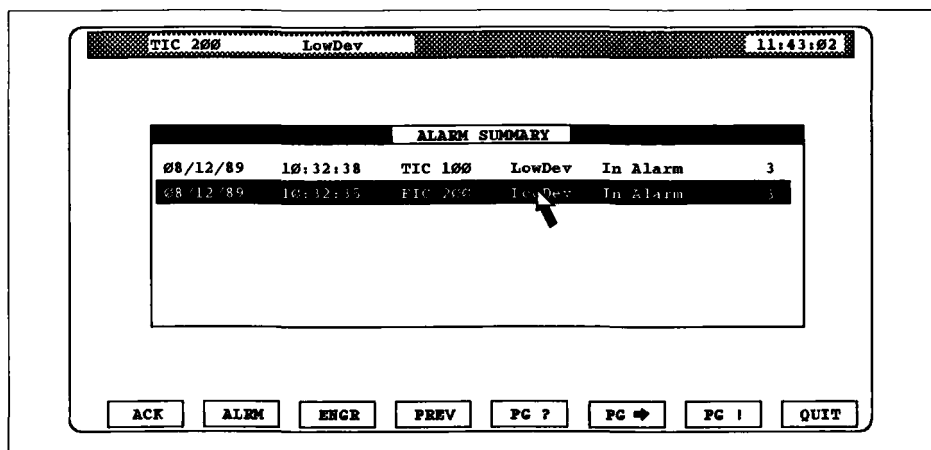

Figure 5.2 Example Alarm Summary Page
- **ALRM.** The ALRM softkey accesses the *Alarm Summary* page. Figure 5.2 shows an example page. The summary lists all blocks currently in alarm, and also any with unacknowledged alarms of priority 6 or more, even if they are no longer in alarm.